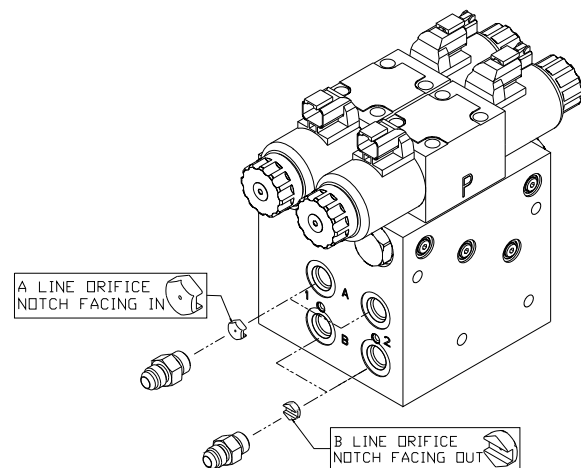

Figure 21: Valve Block Assembly
4. Install two orifices (**F08**) into the "B" ports **with the notch facing outward** as shown in **Figure 21**.
5. Install the remaining orifices (**F08**) into the "A" ports **with the notch facing inward** as shown in **Figure 21**.